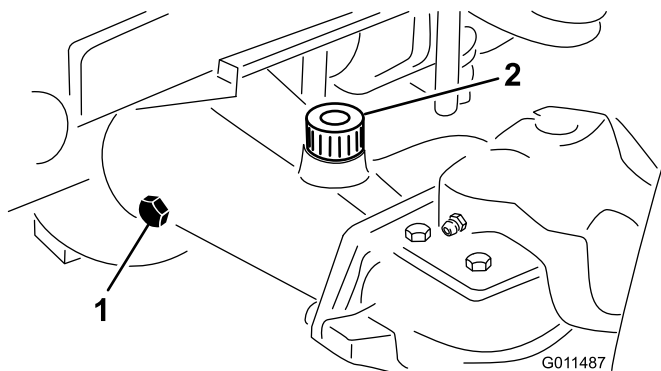

Figure 14
2. Remove a check plug from one end of the axle (Figure 14) and make sure that the lubricant is up to the bottom of the hole. If the level is low, remove the fill plug (Figure 14) and add enough lubricant to bring the level up to the bottom of the check plug holes.